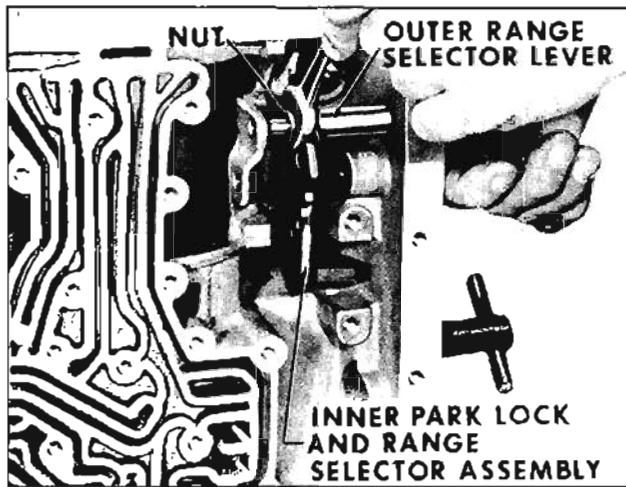

Fig. 6-299 Loosening Selector Lever Locknut
3. With a 9/16" wrench, fully loosen nut that retains outer range selector lever to inner park lock and range selector lever. (Fig. 6-299)